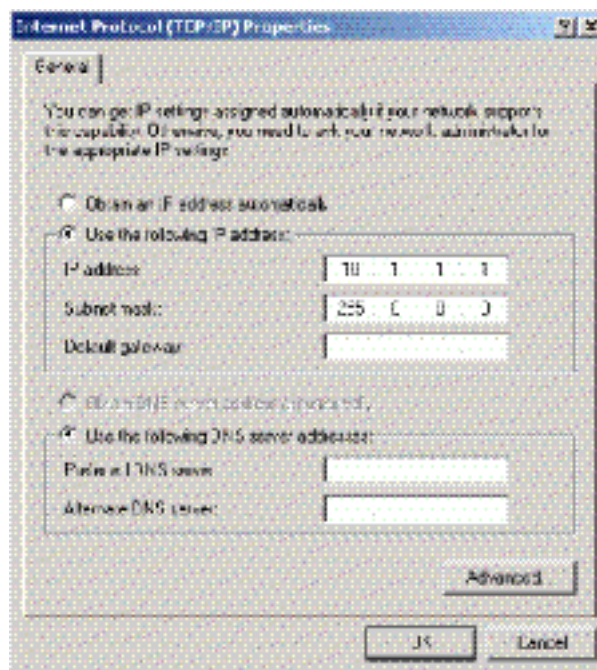

Figure 2-18 Internet Protocol (TCP/IP) Properties Dialog Box
4. In the *Components checked are used by this connection* field, double-click the *Internet Protocol (TCP/IP)* entry. The *Internet Protocol (TCP/IP) Properties* dialog box appears (Figure 2-18).